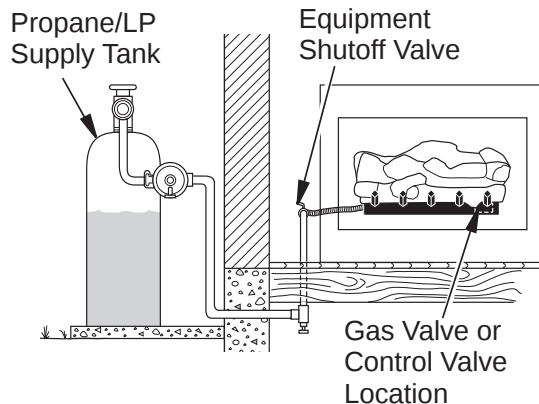

Figure 16 - Checking Gas Joints (Propane/LP Only)
3. Check all joints from gas meter to equipment shutoff valve for natural gas or propane/LP supply to equipment shutoff valve for propane/LP (see **Figure 16 or 17**). Apply noncorrosive leak detection fluid to all joints. Bubbles forming show a leak.
4. Check all joints from equipment shutoff valve (see **Figure 16 or 17, Page 16**). Apply noncorrosive leak detection fluid to all joints. Bubbles forming show a leak.